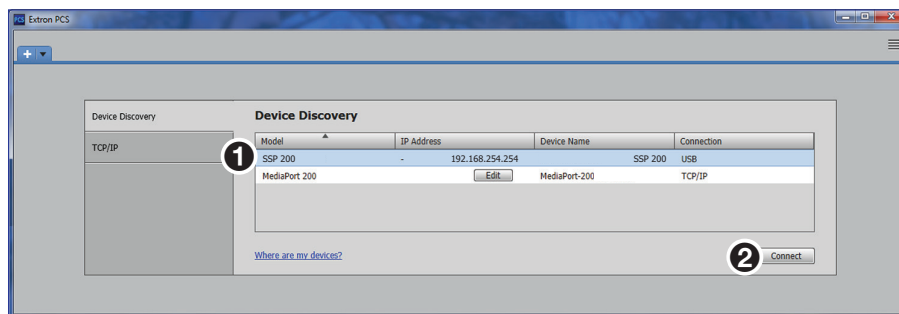

Figure 55. PCS Device Discovery Screen
The Product Configuration Software window opens to the Device Discovery screen (see figure 55).
14. After the upload is complete, a dialog box opens confirming that the update has been successful. Click **Close**. The software returns to the **Device Discovery** window (see figure 55 on page 59).